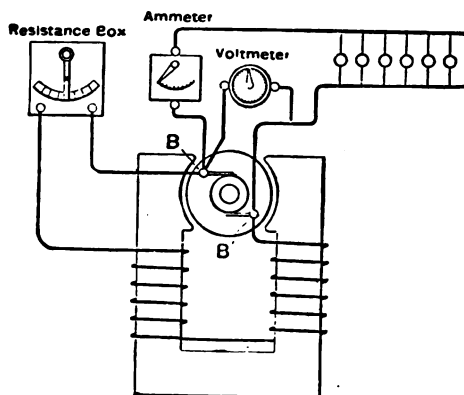

Fig. 196. Circuits of a Shunt Dynamo with Instruments and a Load of Lamps.
*The shunt dynamo.* Fig. 196. Here the field circuit is arranged as a shunt circuit. The armature and ex-